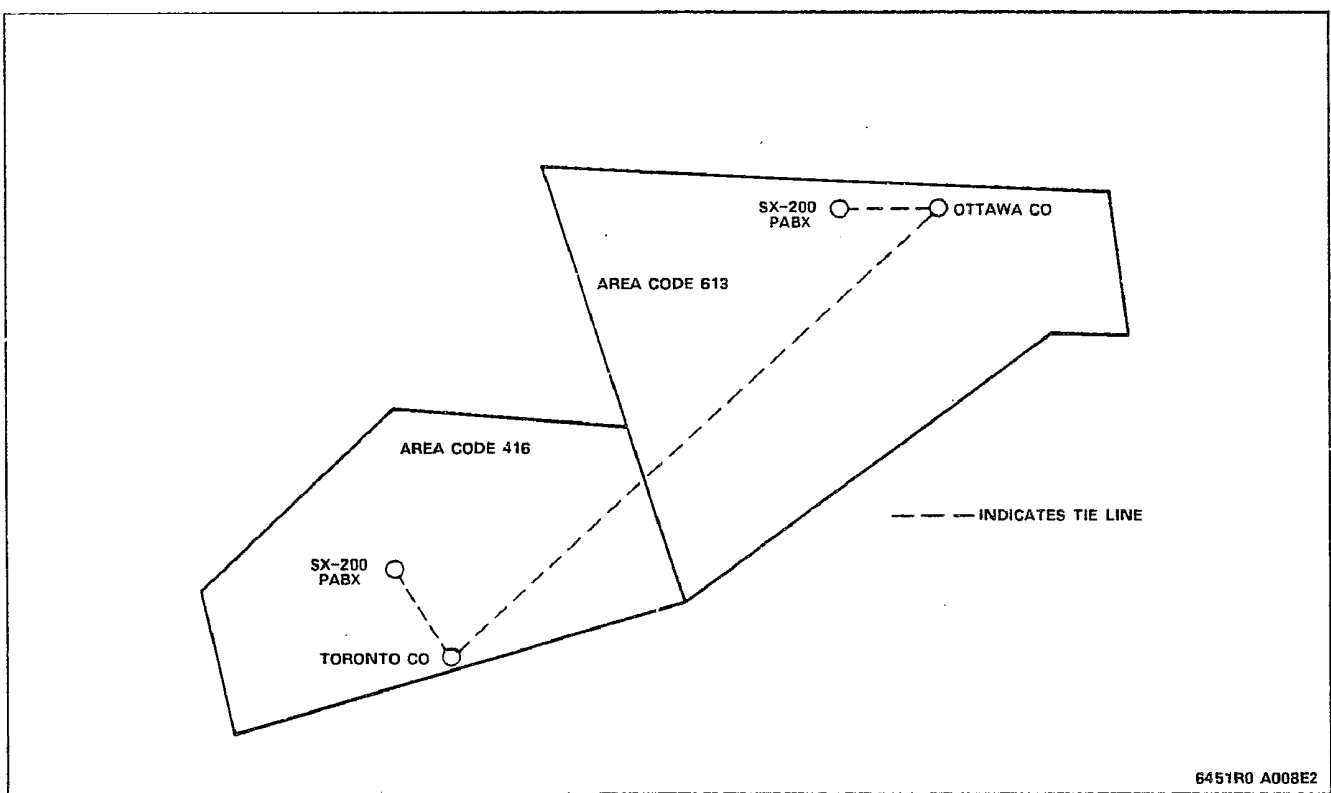

Figure 3-1 Typical Tie Line
3.05 Tie Line Service provides a "tie" between two PABXs. The charge for each tie line is a flat rate charge based on the airline mileage of the line. Figure 3-1 shows a typical tie line connection between an SX-200® DIGITAL PABX in Ottawa, and an SX-200® DIGITAL PABX in Toronto.